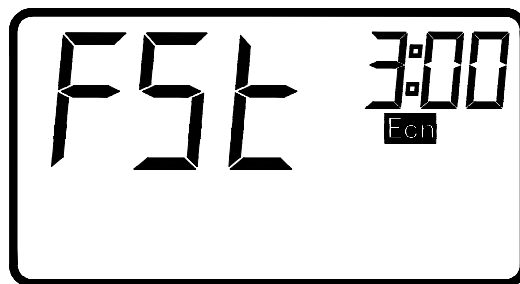

Fig. 8: Start time of filtration is 3:00 o'clock
3. When A2= OFF and the system is under the status of “start time of filtration setting” (Fig. 8),